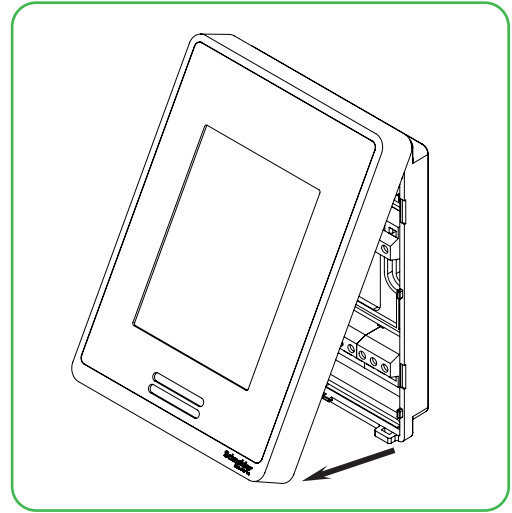

Figure 1 Open the cover
1. Open the unit by pulling on the bottom side of the Room Controller (Figure 1).